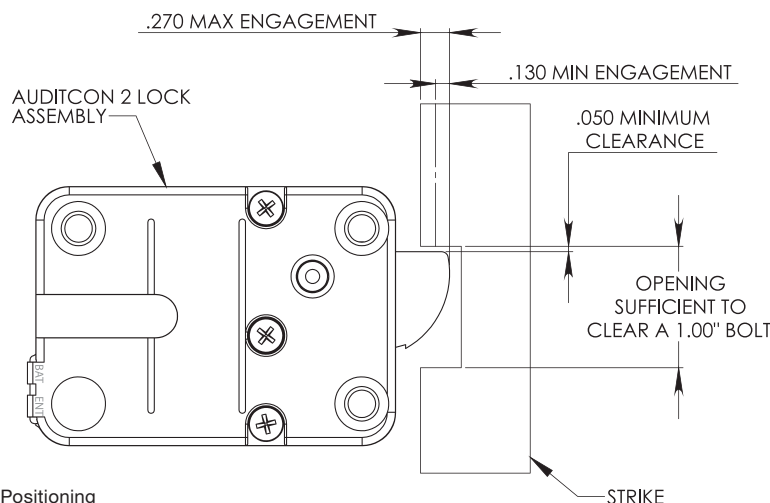

Figure 2 - Swing Bolt Clearances and Positioning
4. When mounting the lock unit (i.e., integrating it in a boltwork), make sure that the lock bolt has clearance to freely move to its end positions and that the shifting force works only in the axial direction (direction of movement). Lateral forces should not be exerted on the lock. A minimum clearance of 1/20" (1.27mm) is required between the flat edge of the bolt and the inside contact edge of the strike. Refer to Figure 2.
1. Ensure that the cable lays in the cable channel as you mount the lock case assembly to the inside of the container door using the three 1/4-20 (or M6-1) screws (Torque 25-30 lbs., 2.8-3.4 N-M), allowing 1/20" (1.27mm) clearance between the flat edge of the swing bolt and the inside contact edge of the strike. (See Figure 2 for proper clearances and positioning when installing a swing bolt.)